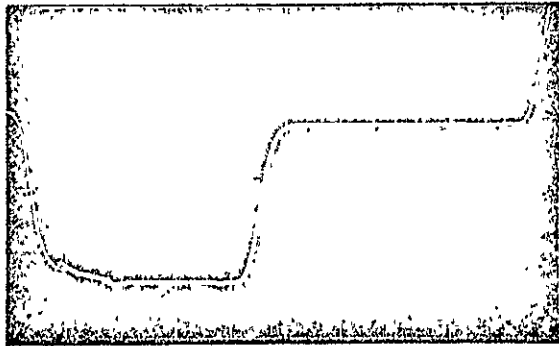

Figure 5-9. A2TJ1 V-Clamp (External Sync Clamp)
##### 5.3.1.3.6.1 Clamp Delay Adjustment (refer to Figure 5-9)
3. Adjust A4-R12 (CLAMP DLY) so that the leading edge of the clamp pulse is approximately 1  $\mu$ s after the beginning of the horizontal sync pulse (as shown in Figure 5-9).